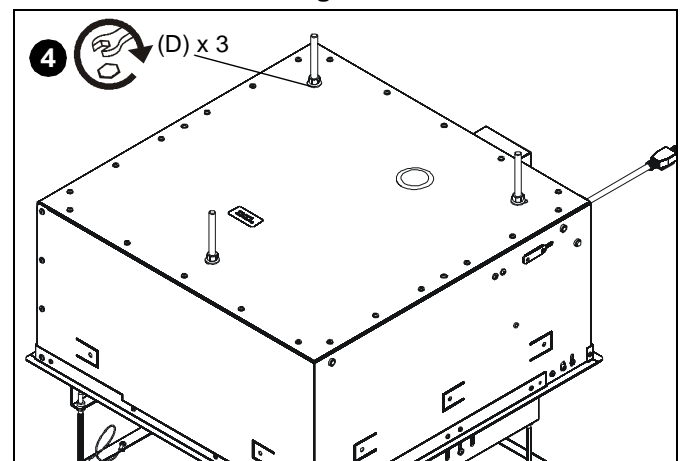

Figure 4
4. Thread each nut completely on bolts. (See Figure 4)